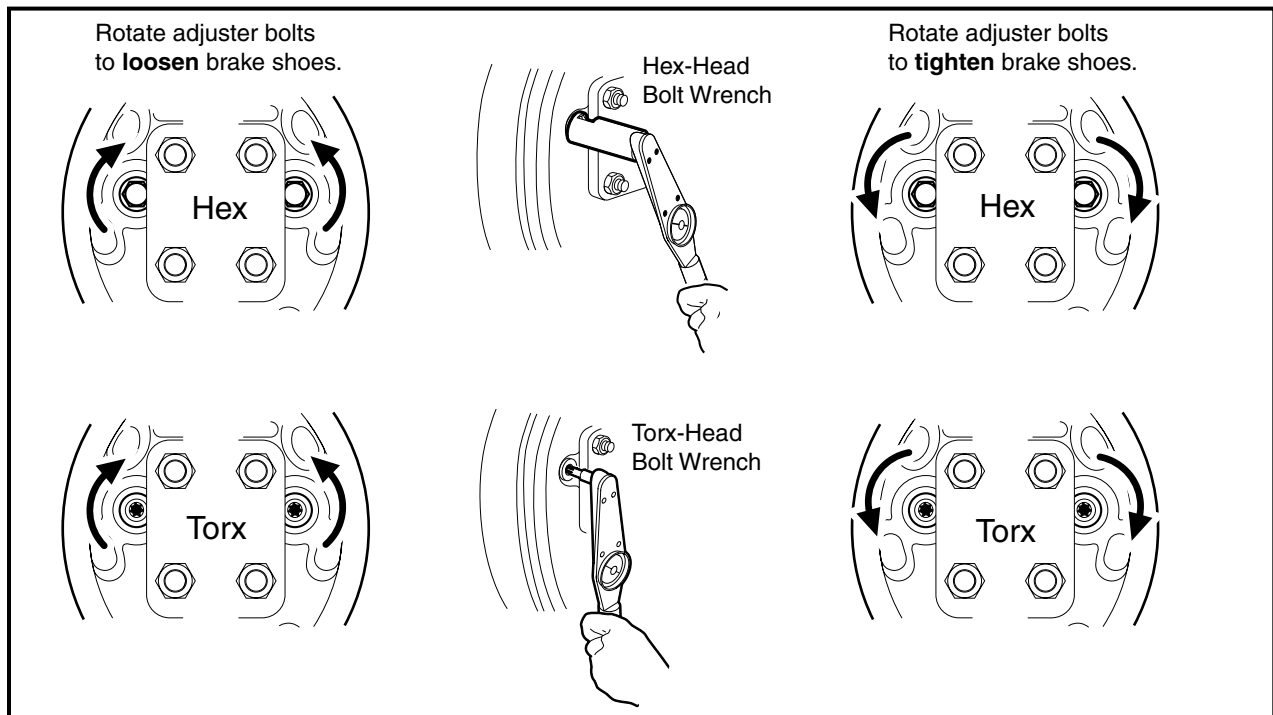

Figure 6a-16 Loosen or Tighten Brake Adjusters
18. Install the dust cover (1) (**Figure 6a-4, Page 6a-9**).
19. With the brake drum properly seated and secured, use a torque wrench with a Torx #T-27 driver, or hydraulic brake adjuster (CCI P/N 102169401), and gently adjust the clearance between the brake shoe lining and brake drum by turning each of the two adjuster bolt heads on the back of the brake cluster plate as shown (**Figure 6a-16, Page 6a-19**). **See following CAUTION.**
- Do not apply more than 65 in-lb (7.3 N-m) of torque to any of the adjuster bolts. Overtightening the adjuster bolts could result in damage to the brake cluster components or the separation of the bolt (4) from the adjuster (3) (Figure 6a-3, Page 6a-4 or Figure 6a-21, Page 6a-25).
20. Install the wheel and finger-tighten the lug nuts (21) (Figure 6a-3, Page 6a-4).
1. Place the brake drum (15) onto the wheel bolt flange and brake cluster (Figure 6a-21, Page 6a-25).